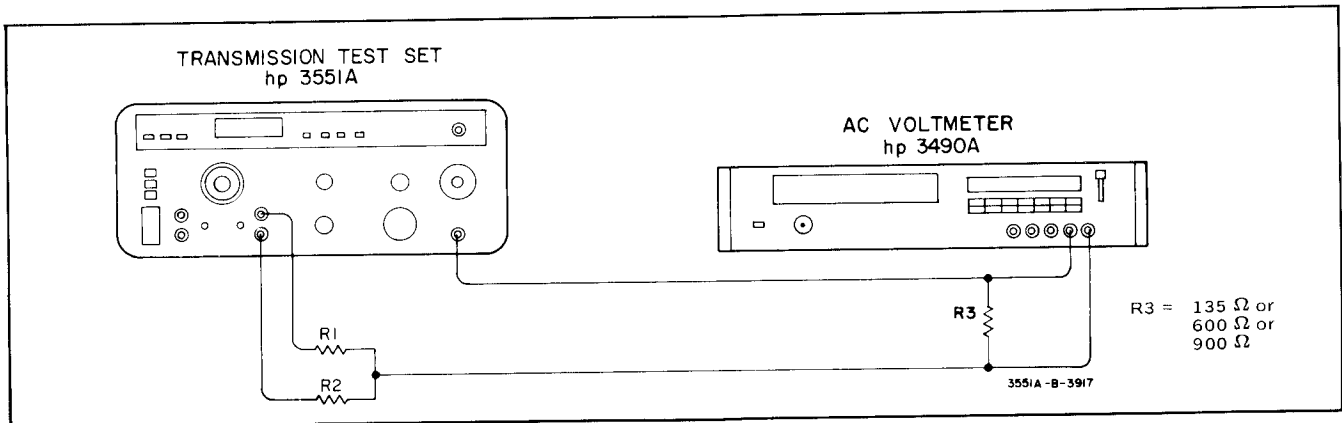

Figure 5-7. Transmitter Balance Test Setup.
- e. Connect the equipment as shown in Figure 5-7. Use two 67.5 ohm resistors for R1 and R2.
in Figure 5-7 for R1 and R2. For the 900 position use a 900 ohm resistor in Step a and two 450 ohm resistors in Figure 5-7 for R1 and R2.